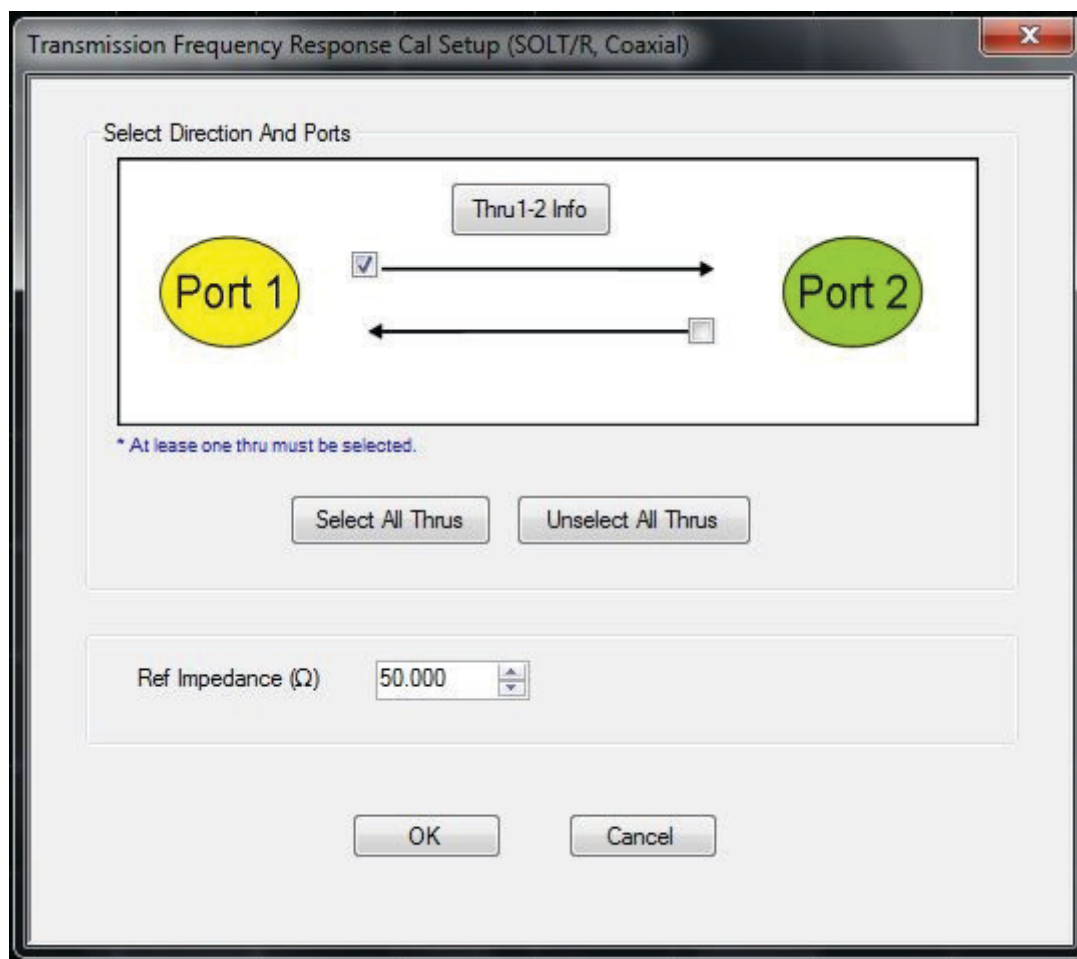

Figure 3-9. TRANSMISSION FREQUENCY RESPONSE CAL SETUP (SOLT/R, Coaxial) Dialog
6. Select Edit Cal Params (see Figure 3-9).